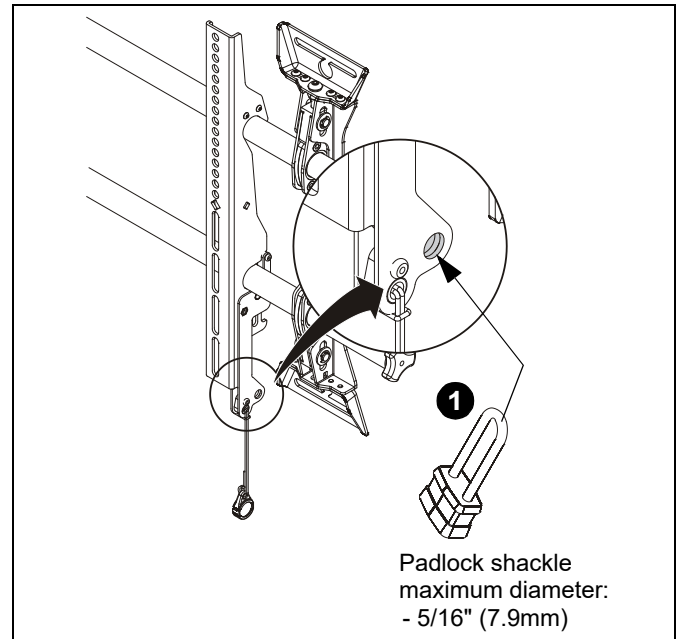

Figure 18
1. Add padlock (not included) to interface bracket to complete security. (See Figure 18)